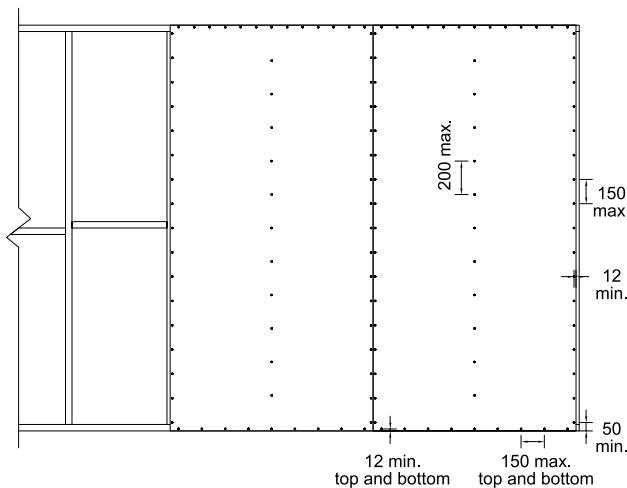
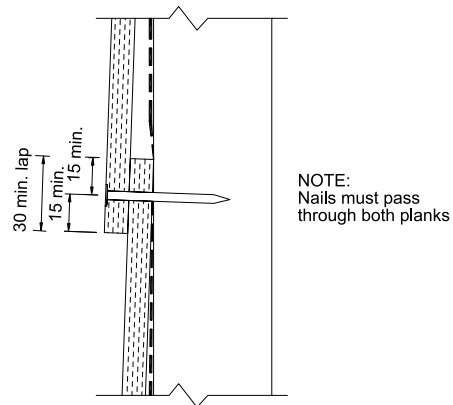
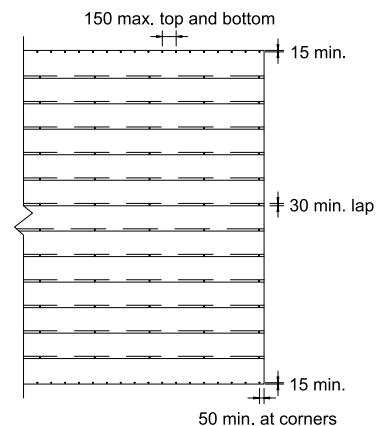

Figure 3: Nailing Detail for HardiFlex™ Sheets, PineRidge™ Lining or PanelClad™ Sheets
Figure 6: Nailing Detail for HardiPlank™ or PrimeLine™ Weatherboards
Figure 7: Nailing Spacing Detail for JHFC Planks or Weatherboards
6mm JHFC sheets, single-sided, fixed vertically, (see Figure 3, 4 or 5b), or horizontally with set joints (see Figure 5a)	2.8
6mm JHFC sheets double-sided, fixed vertically (see Figure 3, 4 or 5b)	4.0
6mm JHFC sheets, fixed vertically (see Figure 3, 4 or 5b) or horizontally with joints set (see Figure 5a) + JHFC planks or weatherboards on other side (see Figures 6 & 7)	3.2
JHFC planks or weatherboards on one side only (see Figure 6 & 7)	2.0
Non-Cyclonic Areas: Sheets fixed vertically in accordance with Figure 3, Section 5 and Clause 2.3.7 of this manual will achieve the bracing capacities stated in Table 1.
Cyclonic Areas: Sheets fixed vertically along with anchor rods in accordance with Figure 3, Section 5 and Clause 3.3 of this manual will achieve the values stated in Table 4.
Non-Cyclonic Areas: The bracing capacity stated in Table 1 applies to all JHFC planks and weatherboards, when fixed in accordance with Figure 6, Section 5 and Clause 2.3.7 of this manual.
Cyclonic Areas: The bracing capacity stated in Table 4 applies to all JHFC planks and weatherboards, when fixed along with anchor rods in accordance with Figure 6, Section 5 and Clause 3.3 of this manual.
In both the above cases, JHFC planks and weatherboards must be fixed at 150mm maximum centres along top and bottom plates as shown in Figure 7.
HardiBrace™ Sheet Bracing fixed with standard nail pattern (see Figure 1) + 6mm JHFC sheets other side, fixed vertically (see Figure 3, 4 or 5b), or horizontally with set joints (see Figure 5a)	10.0
6mm JHFC sheets, single-sided, fixed vertically (see Figure 3, 4 or 5b) or horizontally with set joints (see Figure 5a)	5.3
6mm JHFC sheets, double-sided, fixed vertically (see Figure 3, 4 or 5b) or horizontally with set joints (see Figure 5a)	7.3
JHFC planks or weatherboards (see Figure 6 and 7) + 6mm JHFC sheets other side, fixed vertically (see Figure 3, 4 or 5b) or horizontally with set joints (see Figure 5a)	6.6
JHFC planks or weatherboards, single-sided (see Figure 6 and Figure 7)	2.4
2. Bracing capacity can only be claimed for JHFC plank or weatherboard cladding if screws pass through both planks. See Figure 6.